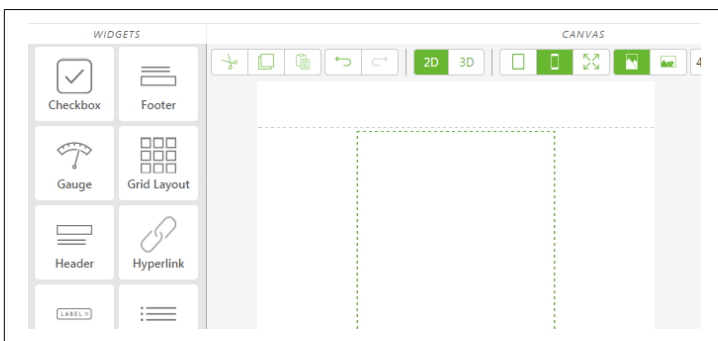

Figure 3-19. Selecting the center panel of the canvas
4. On the canvas, click on the Center Panel to select it (Figure 3-19).